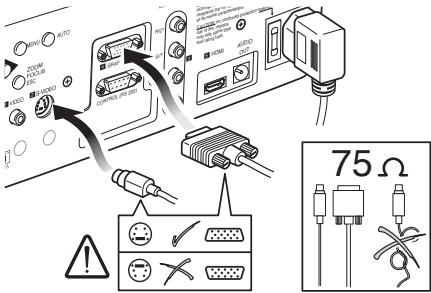

Fig. 16
- With exception of coaxial RCA/Phono type connectors, always double-check that the plug is inserted the correct way round to avoid damaging the plugs or the sockets on the projector (*Fig. 16*)